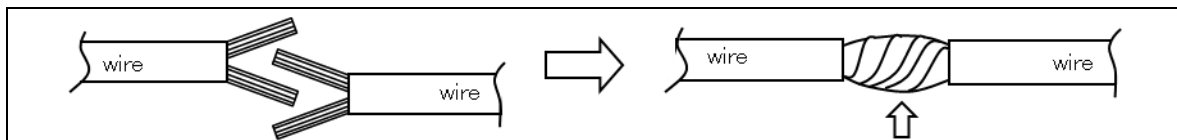

Figure 11
13. Divide each of the stripped wire portions in two, join and then twist them together. (See Figure 11.)